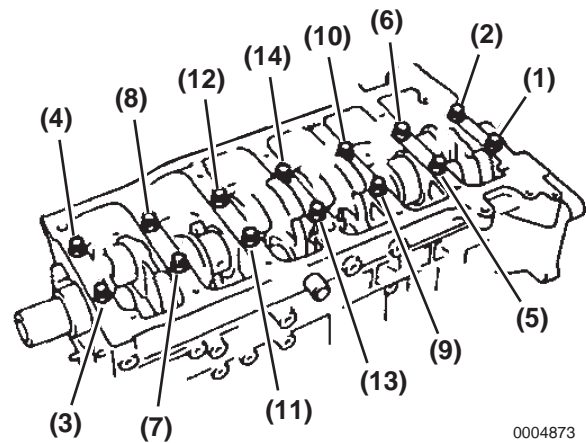

Figure 5-91
17. Uniformly loosen and remove the 14 main bearing cap bolts (12 pointed head) in the order shown in **Figure 5-91**.